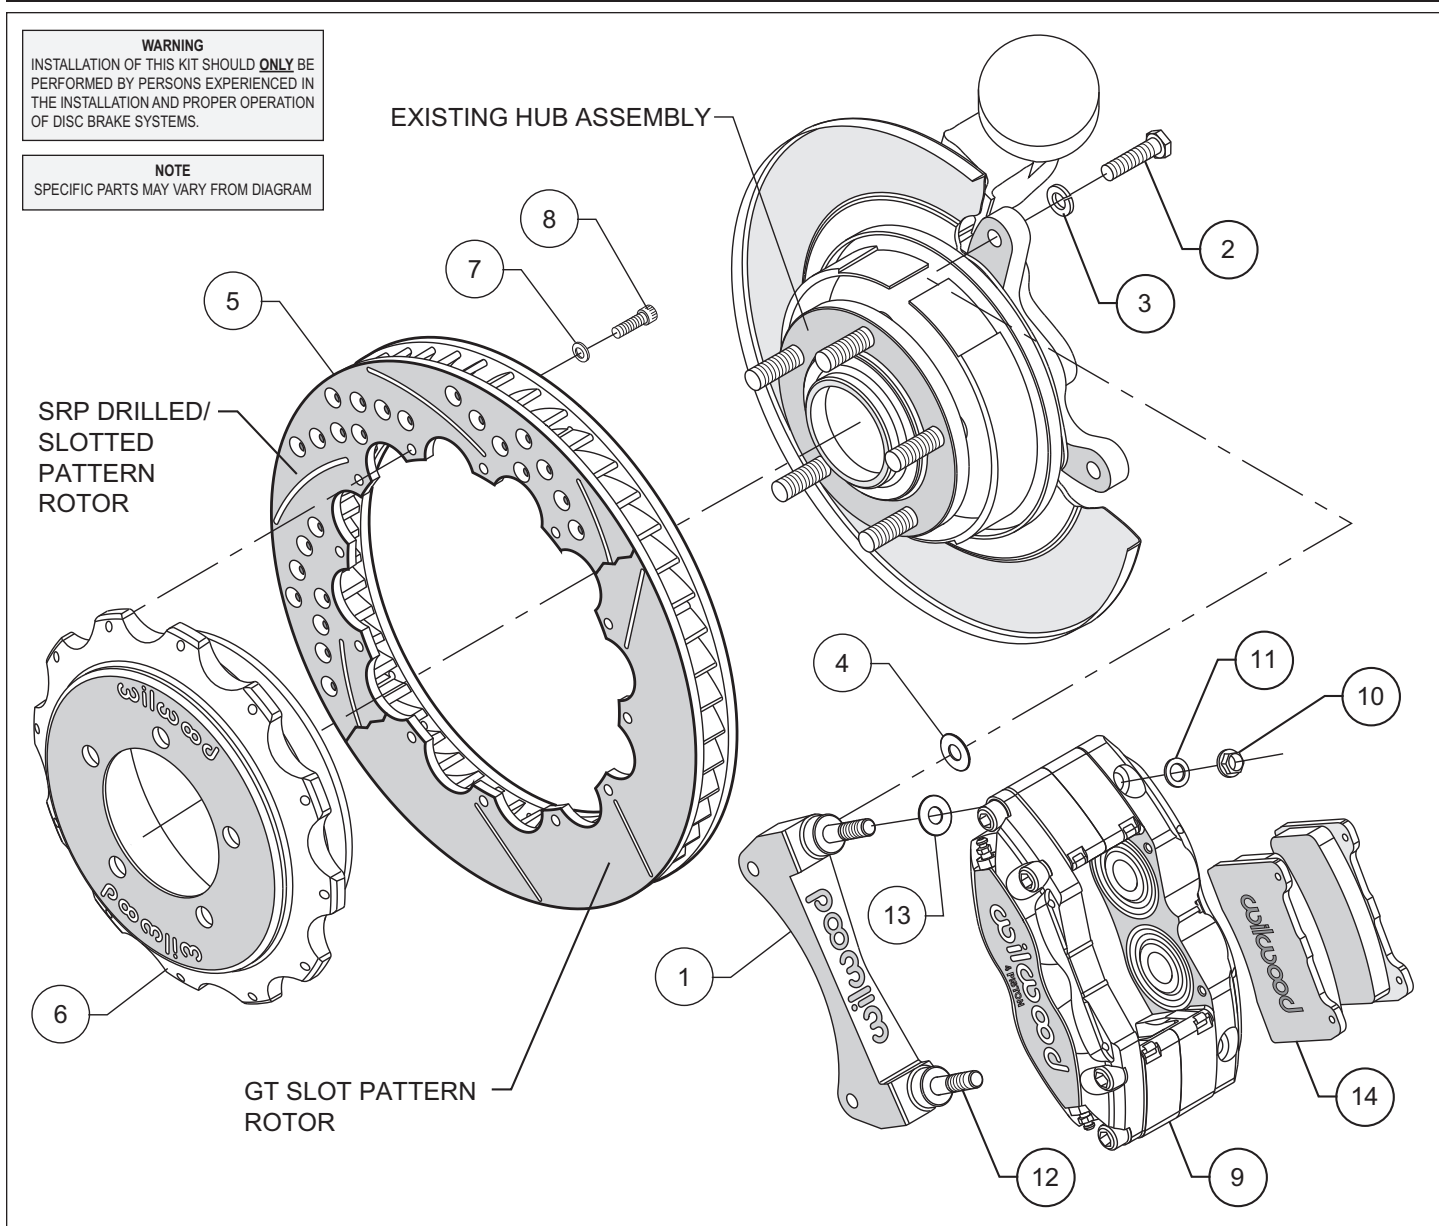
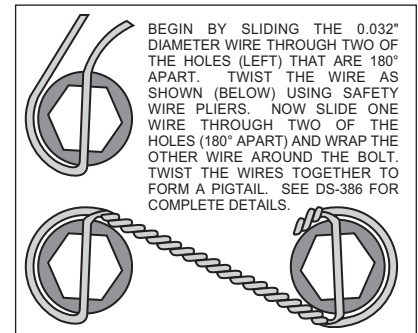

Figure 1. Typical Installation Configuration
Figure 3. Safety Wire Diagram
- The caliper mount bracket assembly (1) should be installed first with clean, dry threads on the mounting bolts. Install the bracket on the outboard side of the hub by sliding bolt (2) through lock washer (3), then through the OEM caliper mounting bracket ears, shim washer (4) and into the bracket (1). The bracket must tighten squarely against the outboard side of the caliper mount bosses on the upright. Inspect for interference from casting irregularities, machining ridges, burrs, etc. Use one thin shim (4) between the bracket and upright during initial trial fitting. Later, after the caliper, pad, and rotor alignment has been checked, and any necessary shims have been put in place, the mounting bolts should be coated with red *Loctite*® 271 and torqued to 35 ft-lbs.
- Assemble the rotor (5) to the hat (6) with the bolts (8) and washers (7) as indicated in the configuration pictured in Figure 1. Be sure all bolts thread in smoothly and are snug. Then, torque all bolts in an alternating sequence to 85 **in-lbs**. The rotor mounting bolts (8) must be lockwired using standard 0.032 inch diameter stainless steel safety wire as shown in Figure 3. Please refer to Wilwood's data sheet DS-386 (available at [www.wilwood.com/pdf/ds386.pdf](http://www.wilwood.com/pdf/ds386.pdf)) for complete safety wire installation instructions.